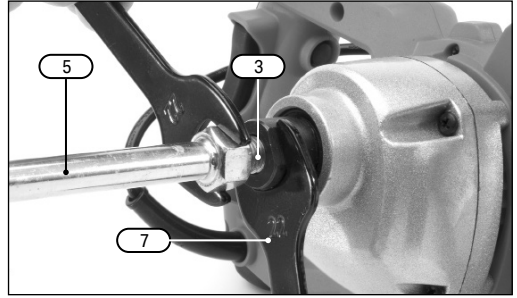

Fig. 1
6.1 Fitting the Mixer Paddle (Fig. 1)
- Fit the mixing paddle shaft (5) onto the spindle (3). Tighten the nut using the spanners (7) supplied.
- Then connect the mixing paddle (6) to the shaft.